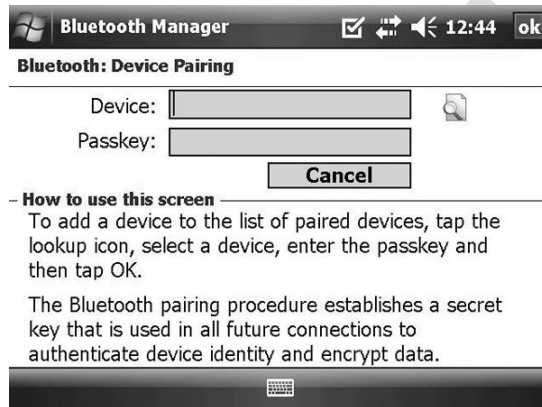

Figure 14-10. Press the lookup icon.
- Under “Bluetooth: Device Pairing” press the lookup icon (right of the “Device” field). See Figure 14-10.